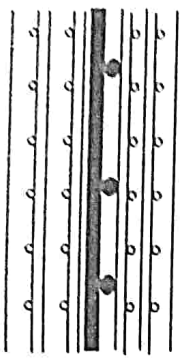

Fig. 5.15.1. Skeletal armature method
- 1. In this method a framework of reinforcing bars (skeletal steel) is constructed to which a layer of meshes is applied Fig. 5.15.1.